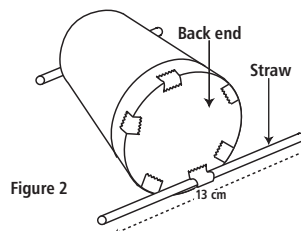

Figure 2
4. Cut a second straw 13 cm long and tape the straw to the bottom of the back end of the cup so that the straws are parallel to each other and close to the rim at each end. See figure 2.